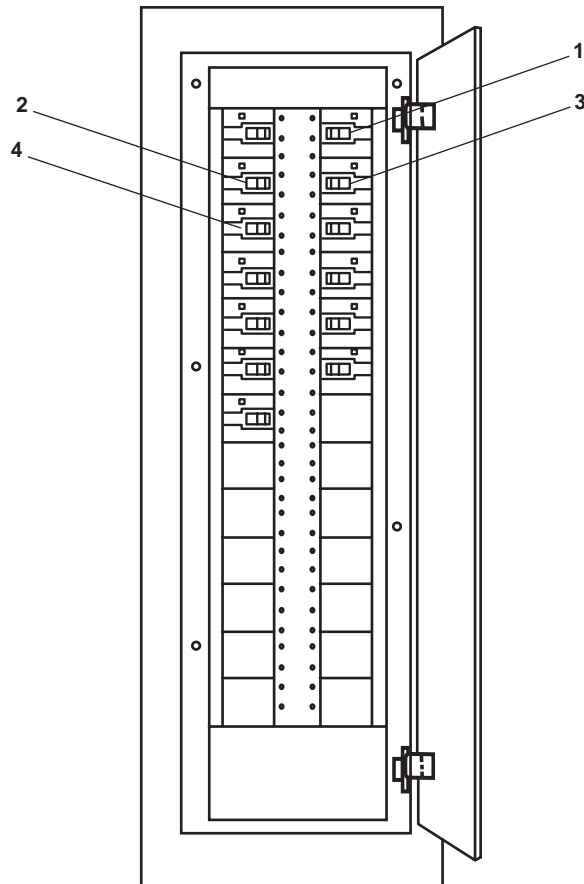

Figure 2. 440V Power Panel No. 5
- (1) POTABLE WATER PUMP No. 1 (figure 2, item 1)
- (2) POTABLE WATER PUMP No. 2 (figure 2, item 2)